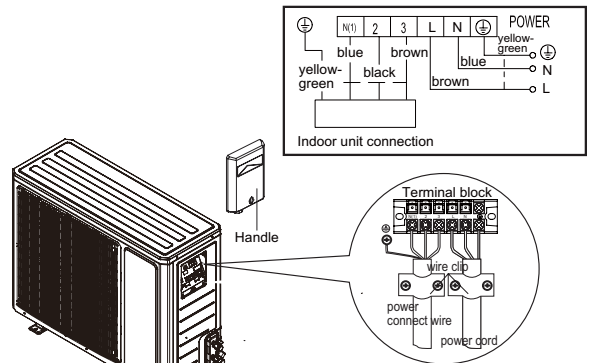

Fig.22
- (1) Remove the wire clip; connect the power connection wire and power cord to the wiring terminal according to the color; fix them with screws.(As show in Fig.22)